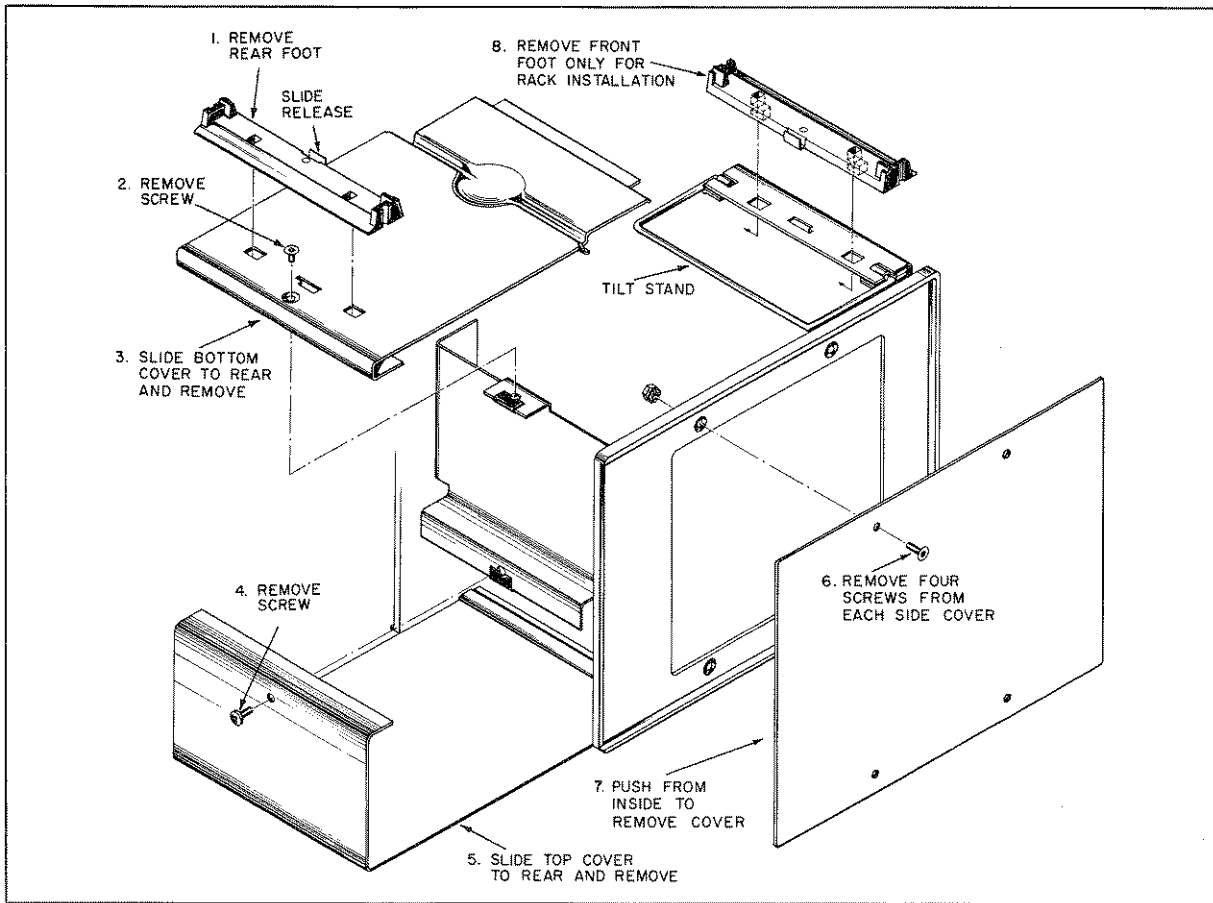

Figure 5-1. Cabinet Removal
5-4. Figure 5-1 illustrates the removal of all instrument covers. This should be necessary only when replacing an attenuator section or a switch component (see Paragraphs 5-5 and 5-7).
- a. Remove all instrument covers (see figure 5-1).